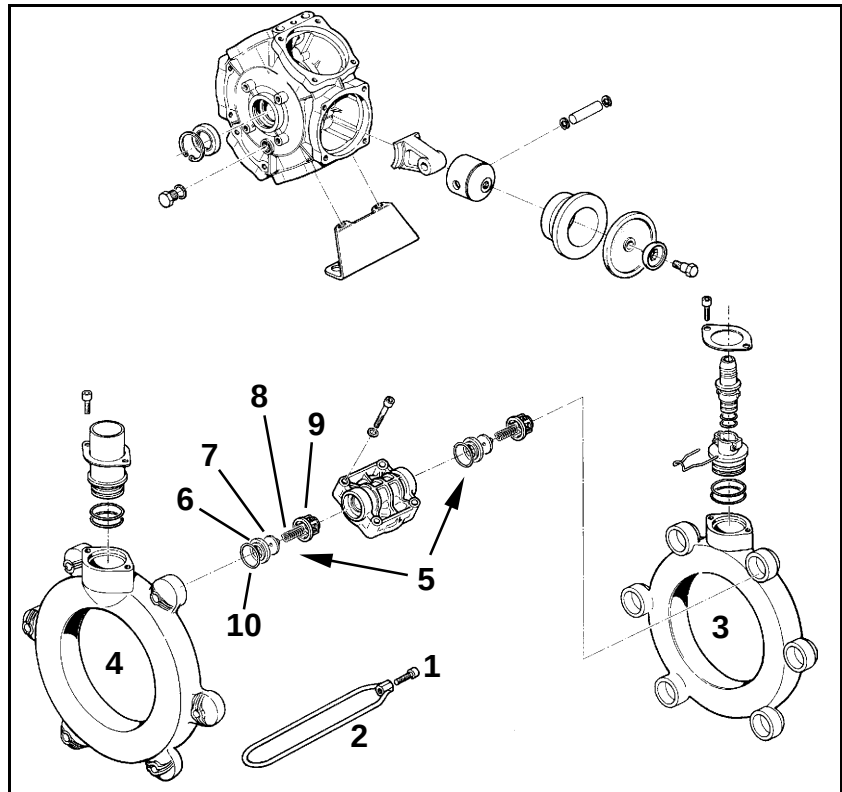

Fig. 121
- Pay attention to the fitting position of the suction- and pressure-side valves, before you remove the valve groups (Fig. 121/5).
- When refitting watch that the valve guide (Fig. 121/9) will not be damaged. Damage could lead to blockage of valves.
- Implicitly tighten bolts (Fig. 121/1) diagonally with the torque stated. Inaccurately tightened bolts will cause tensioning and thus leakage.
2. Slacken bolts (Fig. 121/1) and remove tensioning clamp (Fig. 121/2).
3. Take off suction- and pressure channel (Fig. 121/3 and Fig. 121/4).
4. Take off valve groups (Fig. 121/5).
5. Check for damage or wear of the valve seat (Fig. 121/6), valve (Fig. 121/7), valve spring (Fig. 121/8) and valve guide (Fig. 121/9).
6. Remove the O-ring (Fig. 121/10).
8. Mount the valve groups (Fig. 121/5) after checking and cleaning.
9. Fit new O-rings (Fig. 121/10).
10. Re-install suction (Fig. 121/3) and pressure channel (Fig. 121/4) to the pump housing and refit the tensioning clamp (Fig. 121/2).
11. Tighten the bolts (Fig. 121/1) always diagonally with a torque of **11 Nm**.